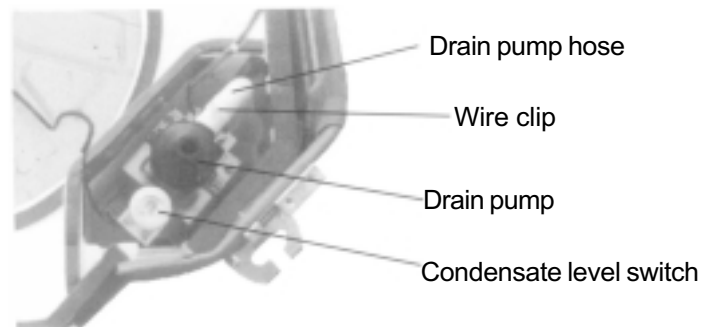

Figure 18
- ⑨ Disassemble the pump drain hose.
- Cut the wire clip as shown in figure 18, and separate the drain pump hose and pump outlet.